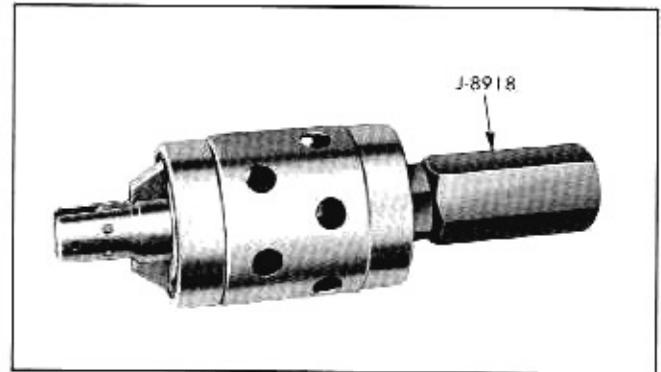

Fig. 7-17 Tool J-8918 Installed
3. Install Tool J-8918 to remove bearings and bearing spacer (Fig. 7-17).